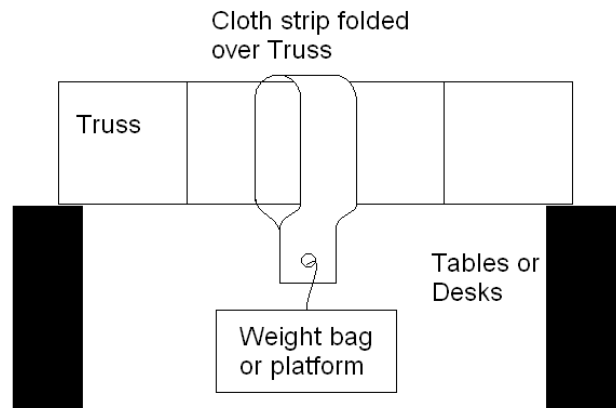

Figure 8. Hanging weight from the square truss
1. Place the ends of each of the truss segments on tables or desks so that the center is not supported, as shown in Figures 8 and 9.
3. Wrap the strip of felt or cloth around the top of the truss and make a hole for the weight hook, as shown in Figures 8 and 9.